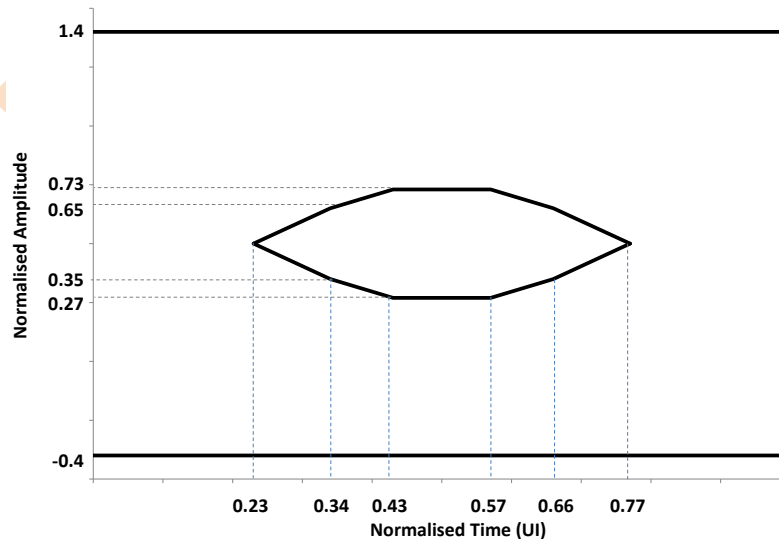

Figure 26: Transmit Output Optical Eye
- Worst case optical eye is defined by the mask shown in Figure 26: